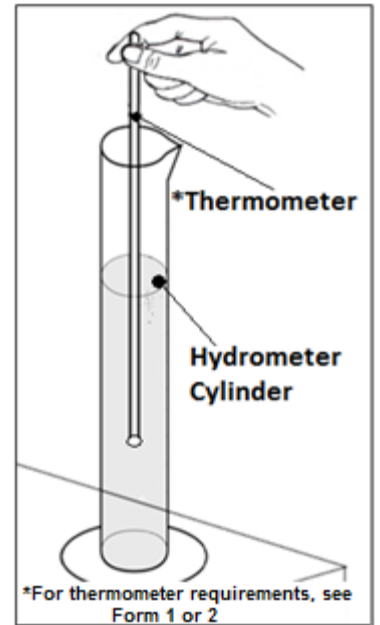

Figure 11
- Place Hydrometer Cylinder on a level table and using a Thermometer measure the temperature of the solution in the Hydrometer Cylinder immediately (Figure 11).